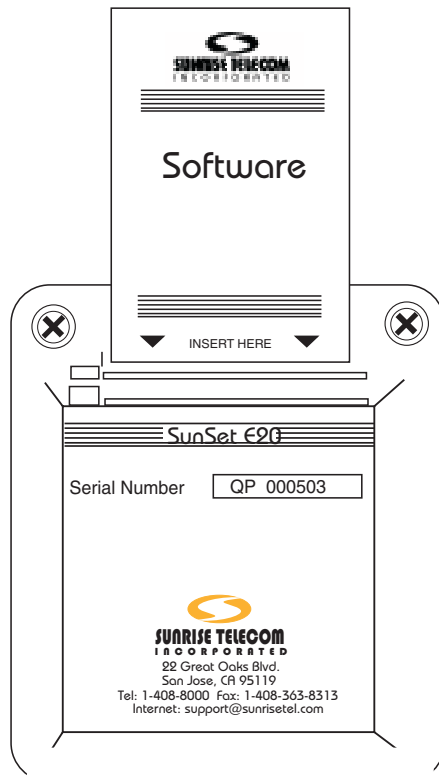

Figure 1
- 6) Ensure the Software cartridge is fully seated in its slot (refer to Figure 1, Software Cartridge Installation).